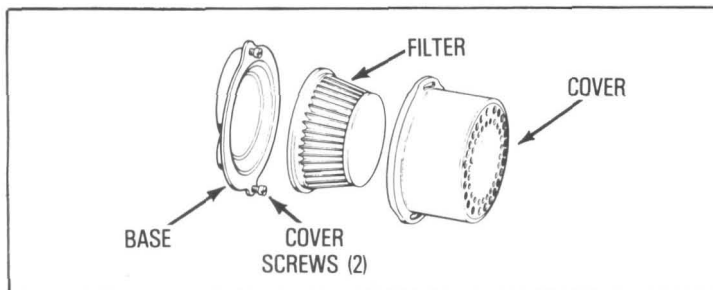

Fig. 4
A. **DRY TYPE PAPER FILTER** (see Figure 4)